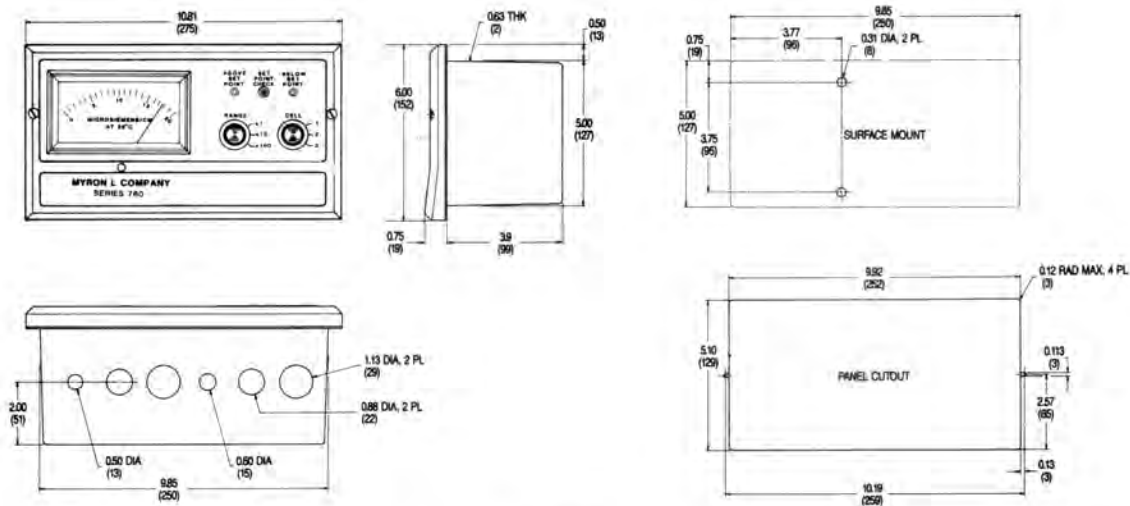

FIG. 2-1
STEP 1 Select mounting site location. Mark and drill the required mounting holes. For hole drilling locations, see Fig. 2-1.
A panel mounting fastening kit is provided with all Conductivity Monitors. Panel mounting will require the use of the fastening kit's two (2) 4-40 mounting screws/nuts or two (2) #4 x 1/2" sheet metal screws. See Fig. 2-1 for panel cutout dimensions.
The electrical installation procedures provided in this manual are common to all Conductivity Monitors. See Fig. 2-1 for the hole dimensions of the enclosure's cable access holes. Unless otherwise instructed, refer to Fig. 2-4 and 2-5 for the 750/760 Series Monitor's terminal block (TB) connector wiring designations.